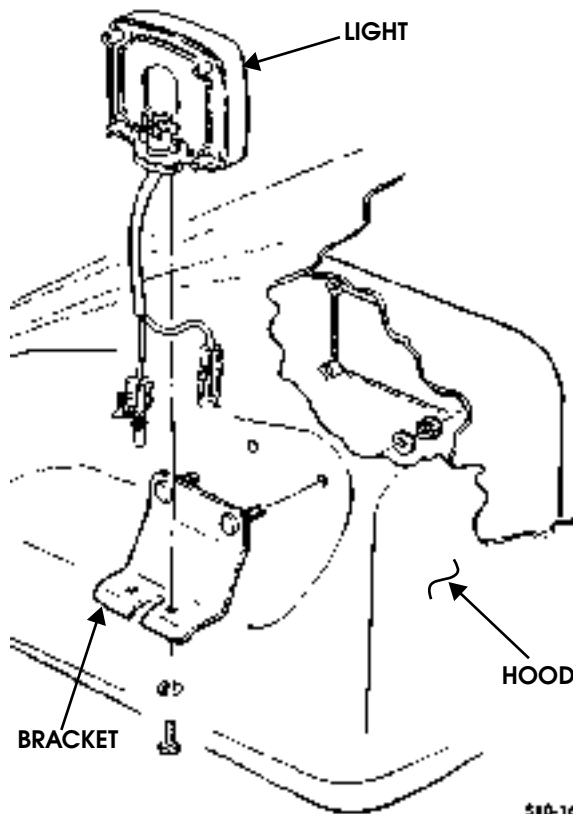

Figure 10-159: Front Turn Signal Bracket
5. Remove two nut and lockwasher assemblies, washers, bracket, and light from hood (Figure 10-159).
1. Secure light to bracket with two lockwashers and screws (Figure 10-159).